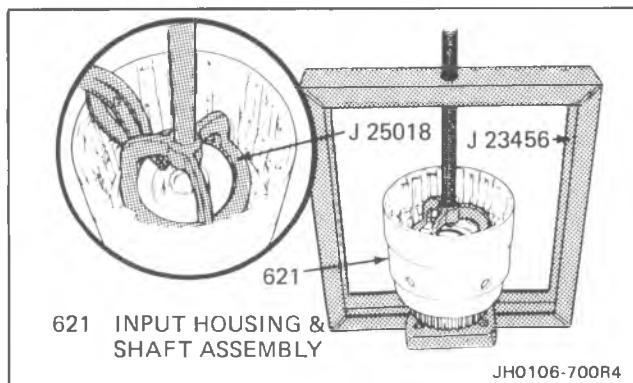

Figure 131 Overrun Clutch Retaining Ring - Installed
**Assemble (Figures 131 and 132)**
1. Overrun clutch spring assembly (634) onto the overrun clutch piston.
3. Retainer snap ring (635) into the snap ring groove
4. Input housing to output shaft lip seal (636)
- Overrun clutch plates (645)